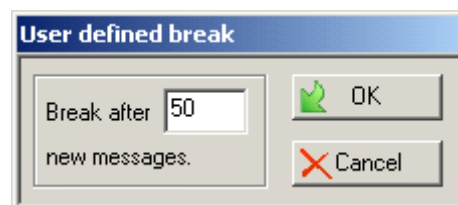

Figure 142 User defined break after message
- "Jump to a Msg": processes up to a specific message. See Figure 142.